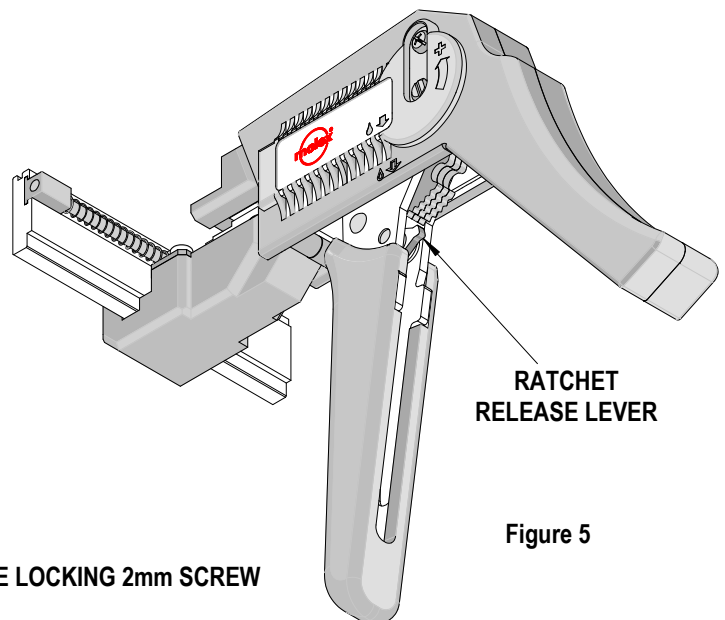

Figure 5
**Note:** If something jams, the ratchet mechanism can be released by pushing upward on the ratchet pawl at the base of the trigger. See Figure 5.
Should this tool ever become stuck or jammed in a partially closed position, **Do Not force the handles open or closed**. The tool will open easily by pressing the ratchet release lever up. See Figure 5.